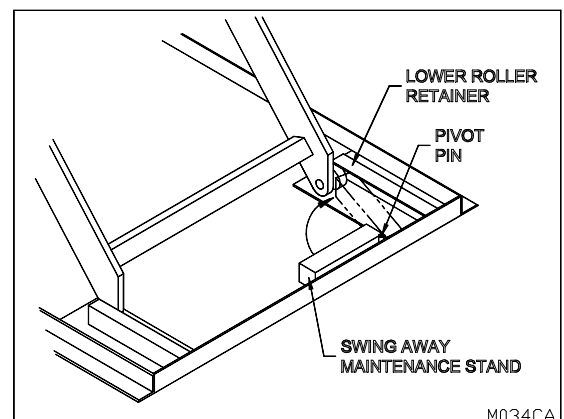

Figure 17: How to Support the Dock Lift for Maintenance
NEVER GO BENEATH THE DOCK LIFT FOR ANY REASON UNLESS THE PLATFORM AND HINGED BRIDGE(S) ARE PROPERLY SUPPORTED (See “Figure 17: How to Support the Dock Lift for Maintenance” on page 32) AND THE POWER IS DISCONNECTED, PROPERLY TAGGED AND LOCKED OUT. IT IS THE RESPONSIBILITY OF THE OWNER TO ENSURE THAT NO LOAD OR TRAFFIC IS PLACED ON THE PLATFORM WHILE THE MAINTENANCE STAND IS ENGAGED. THE CONSTRUCTION OF THE MAINTENANCE STAND IS INTENDED TO SUPPORT THE WEIGHT OF THE UNLOADED DOCK LIFT ONLY.
NEVER GO BENEATH THE DOCK LIFT FOR ANY REASON UNLESS THE PLATFORM AND HINGED BRIDGE(S) ARE PROPERLY SUPPORTED (SEE "Figure 17: How to Support the Dock Lift for Maintenance" on page 32) AND THE POWER IS DISCONNECTED, PROPERLY TAGGED AND LOCKED OUT. IT IS THE RESPONSIBILITY OF THE OWNER TO ENSURE THAT NO LOAD OR TRAFFIC IS PLACED ON THE PLATFORM WHILE THE MAINTENANCE STAND IS ENGAGED. THE CONSTRUCTION OF THE MAINTENANCE STAND IS INTENDED TO SUPPORT THE WEIGHT OF THE UNLOADED DOCK LIFT ONLY.
2. Insert the drop-in style maintenance stand at the rolling end of the dock lift into the path of the rollers, or use the swing away maintenance stand pivots on a pin (only one of these maintenance stand configurations will be supplied). Swing the maintenance stand as far around as possible into the path of the rollers. (See "Figure 17: How to Support the Dock Lift for Maintenance" on page 32)